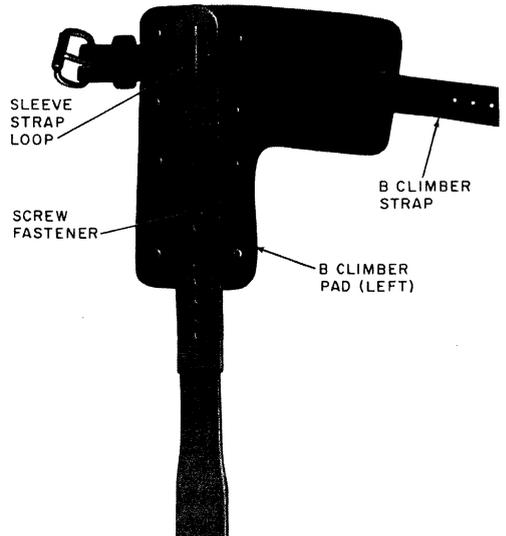
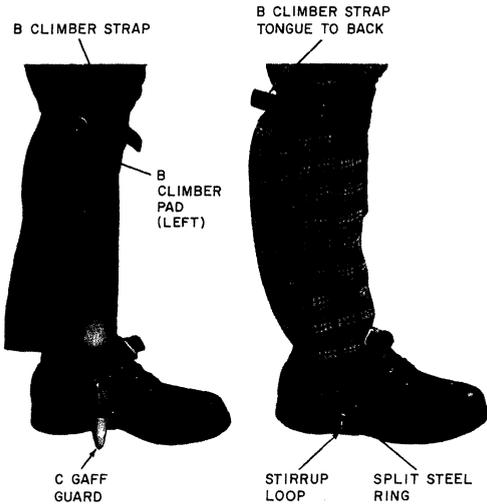

Fig. 6—B Climber Strap and Pad Installed on Climber
Fig. 9—Climber Strapped to Leg
2.11 The B climber strap (Fig. 6) consists of a 22- or 26-inch strap with a buckle permanently attached. The B climber strap is used to hold the pad on the leg iron and to fasten both to the employee's leg when the climber is worn.
- (2) Place the B climber strap and pad on the sleeve as shown in Fig. 6. The strap should be placed so the tongue will point toward the back of the leg when buckled.
- (3) Place the sleeve on the shank of the climber, step on the stirrup and buckle the foot strap so the stirrup is held firmly against the arch of the shoe. Adjust the sleeve to a position that is most comfortable.
- (4) Place one of the slotted hexagon head setscrews through the hole in the sleeve that is aligned with the threaded holes in the climber and tighten the setscrew to hold the sleeve in place.
- (5) Strap the climber to the leg as shown in Fig. 9 to see if it feels comfortable. Climbers should be adjusted to the maximum length which is most comfortable.
- (6) If the climber feels comfortable, remove the climber and add the second setscrew (see 2.08) and tighten both screws to hold the sleeves securely. If uncomfortable, move the setscrews up or down one hole on the sleeves as required to find the most comfortable position.
- (7) Repeat the procedure for the other climber.